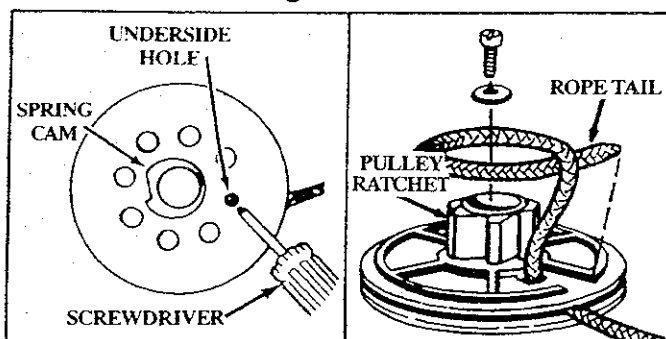

Figure 27
15. Guide rope inside pulley, then up through the pulley ratchet side of pulley hole to the outside by pushing the rope through from the hole on the spring cam side with a small Phillips screwdriver. Figure 27.